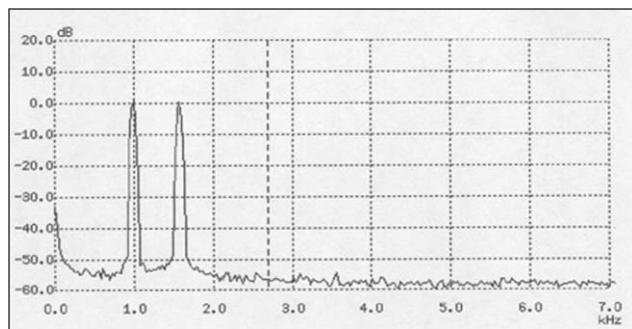

FIGURE 7: Intermodulation test.
Because I did not have an IM test set that would operate in the SMPTE mode, I used the second method. I measured the resulting IM products with a Pico Technology ADC-100 Dual Channel Virtual Instrument in its Spectrum Analyzer (SA) mode (Fig. 7). Any IM products are down more than 50dB from the test signals, which have a combined level equivalent to 30W.